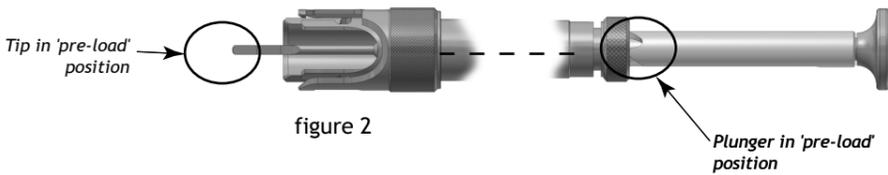
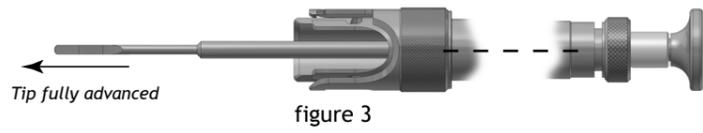

figure 2
figure 3
- Advance the tip until the plunger stops in the 'pre-load' position (figure 2). Release plunger and ensure plunger holds at 'pre-load' position. Fully advance the tip out of injector body (figure 3). Slowly release plunger and ensure tip returns into body after being fully advanced. Ensure there is no resistance throughout the plunger movement.
To advance the plunger, apply pressure to the thumb pad at the end of the plunger. The plunger tip should make initial contact with the cartridge ramp. Advance the plunger forward until the plunger physically stops. Release the plunger and the tip and plunger will hold in the 'pre-load' position, as shown in figure 2.